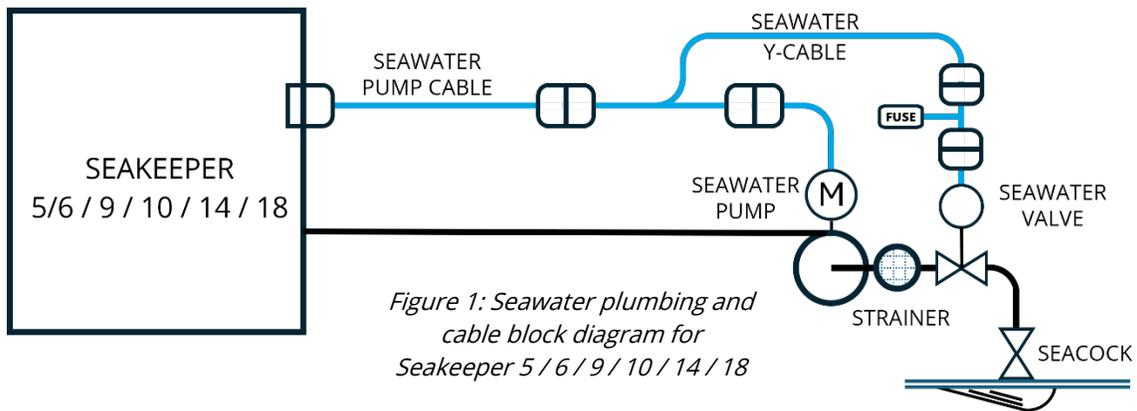

Figure 1: Seawater plumbing and cable block diagram for Seakeeper 5 / 6 / 9 / 10 / 14 / 18
3. Within reach of applicable Y-cable, **INSTALL** Motorized Ball Valve (P/N 20762) on seawater inlet between seacock valve or sea chest and seawater pump (see Figures 1 and 2).